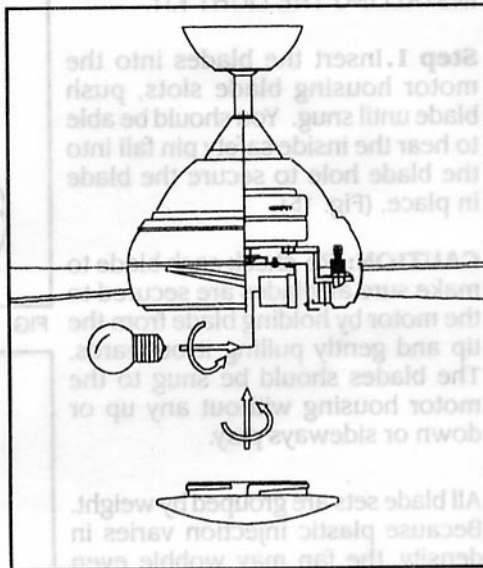

FIG.17
Step 2. Raise glass shade up against bottom of fan housing and secure it to the fan by twisting glass clockwise until snug. DO NOT OVERTIGHTEN. (Fig.17)